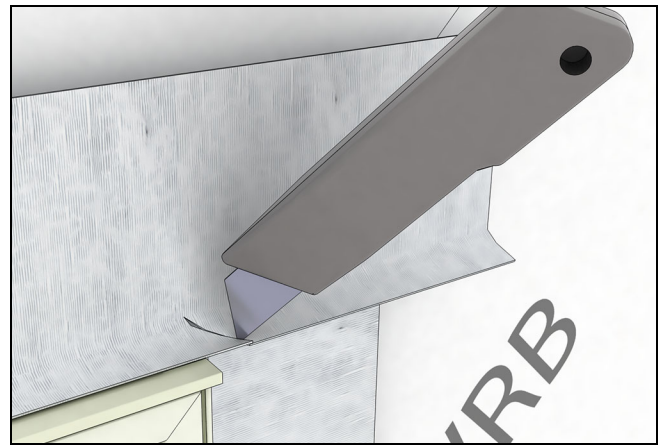
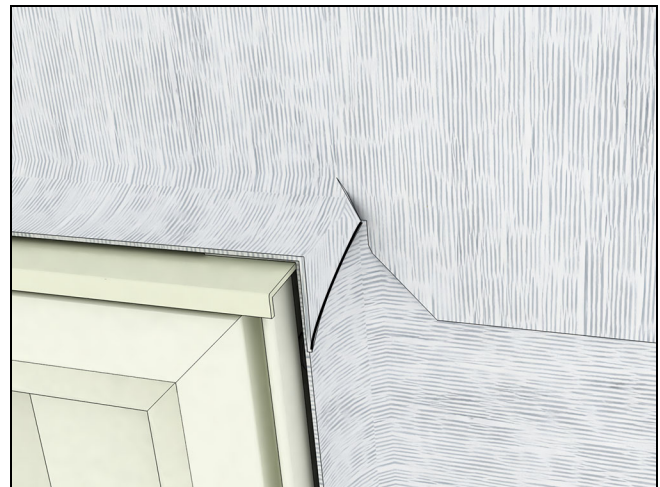

Figure 13
Figure 14
7. Install another layer of adhesive membrane lapping onto the head jamb of the unit and over the sheathing. The membrane flashing at the head jamb should extend and cover the flashing previously installed at the jambs. Make relief cuts and fold down so that it wraps around the jamb See Figure 13 and Figure 14.